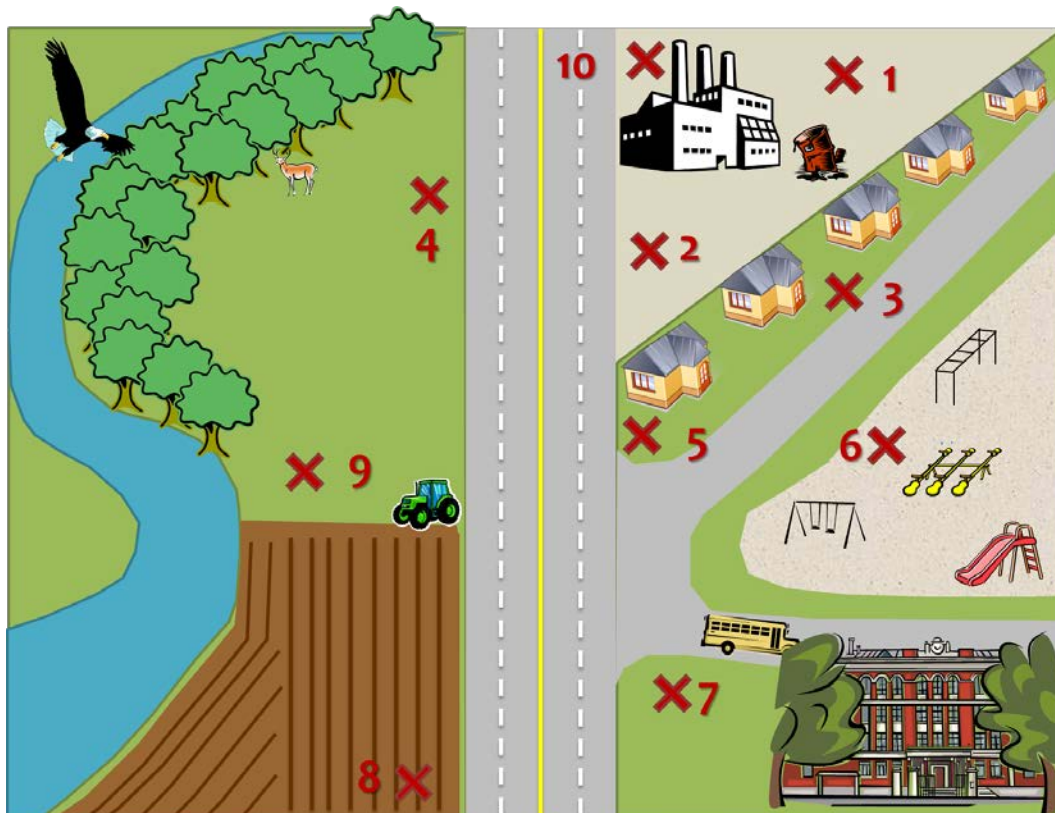

Figure 1. Site layout and location of samples.
1. On a slide, show the location of the spill (barrel) and describe the parts of the surrounding community using Figure 1.
3. Compared to local groundwater, igedomium, has a low pH (5). You can use this property to identify the extent of the contamination.